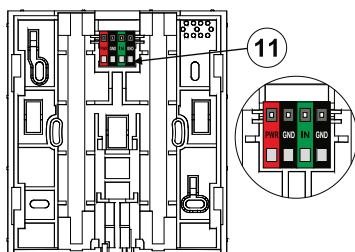

Figure 4: 11 – terminals of an external power supply and an external magnetic contact
2. Mount the back of the keypad to a flat wall using 4 screws. To connect an external power supply or magnetic contact, use the terminals on the back of the keypad, see Figure 4. See the connection description in the paragraphs the Alternative Power Supply and Installation of a magnetic contact.
6. First attach the bottom edge of the keypad to the mounting pad (rear part) of housing (align the bottom sides). Then slide the keypad downwards, until you hear the click of the tab (10). This will secure the keypad against falling out of the installation pad. Then turn the locking mechanism (9) clockwise 90° to the position where the groove points to the  symbol). This locks the keypad in place and engages the tamper contact.